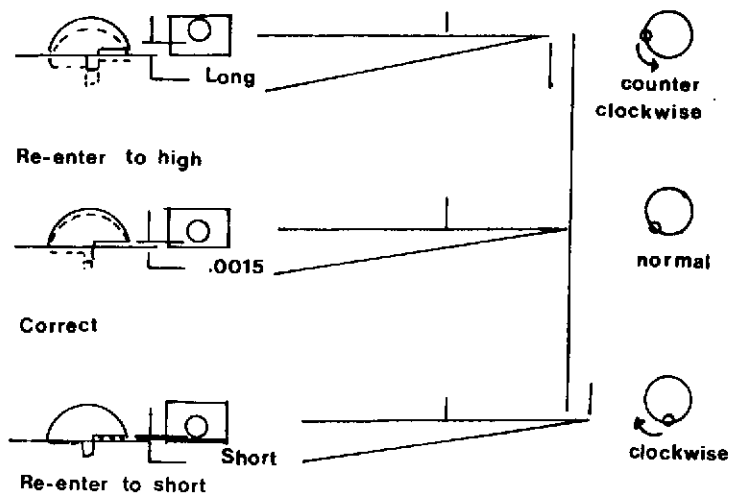

Figure 3-35. PULL DOWN STROKE SETTING
- (1). Adjust protrusion and if claw arm has been removed, set pivots as shown in Fig. 3-35.
- (2). Make a film loop using 3 feet of 16 mm registration film (SMPTE). Pull into the projector and project onto a suitable surface that can be marked.
- (3). Project **FORWARD** and make a reference line at any number on the vertical scale.